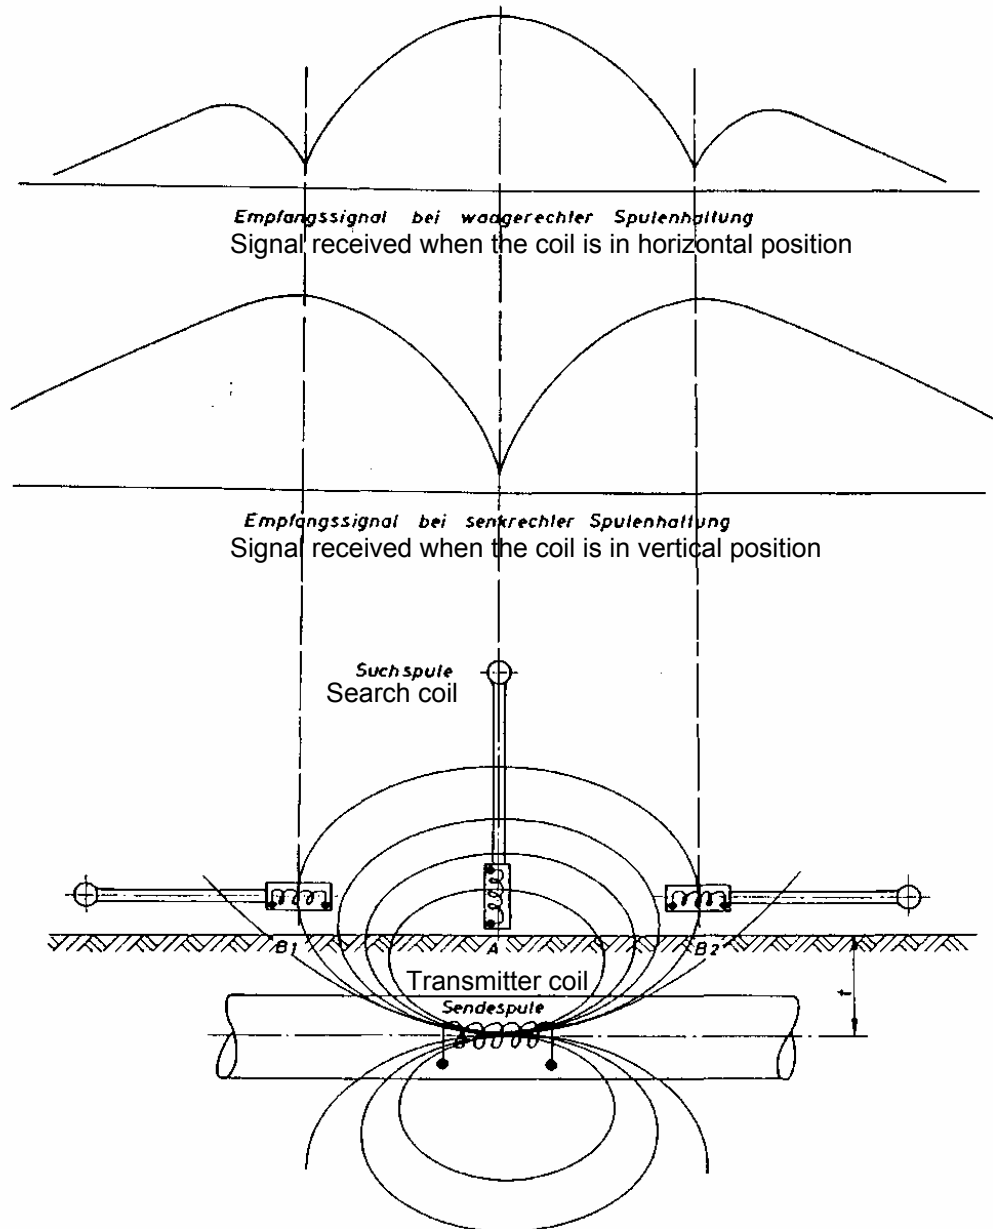

Fig. 3: Determination of location and depth based on the field-line trend:
A lost pipeline pig can be detected by following the pipe route. Guide the **detector coil vertically** along the pipe, as smoothly and calm as possible. The pulse signal becomes audible in a distance of approx. 6 m (depending on the relevant depth!). The intensity of the signal is increasing when the lost pipeline pig is getting closer. After passing a peak, it drops to a minimum (zero) when it is exactly above the pig. If the operator continues walking, another maximum is indicated again before the signal finally disappears (see fig. 3).
Rough formula for calculating the transmitter depth (see fig. 3):
As indicated in fig. 3, there is only one position (A) at which the field lines and the coil axis lines meet each other perpendicularly, provided that the coil is held vertically. Position A thus identifies the **location** of the transmitter.